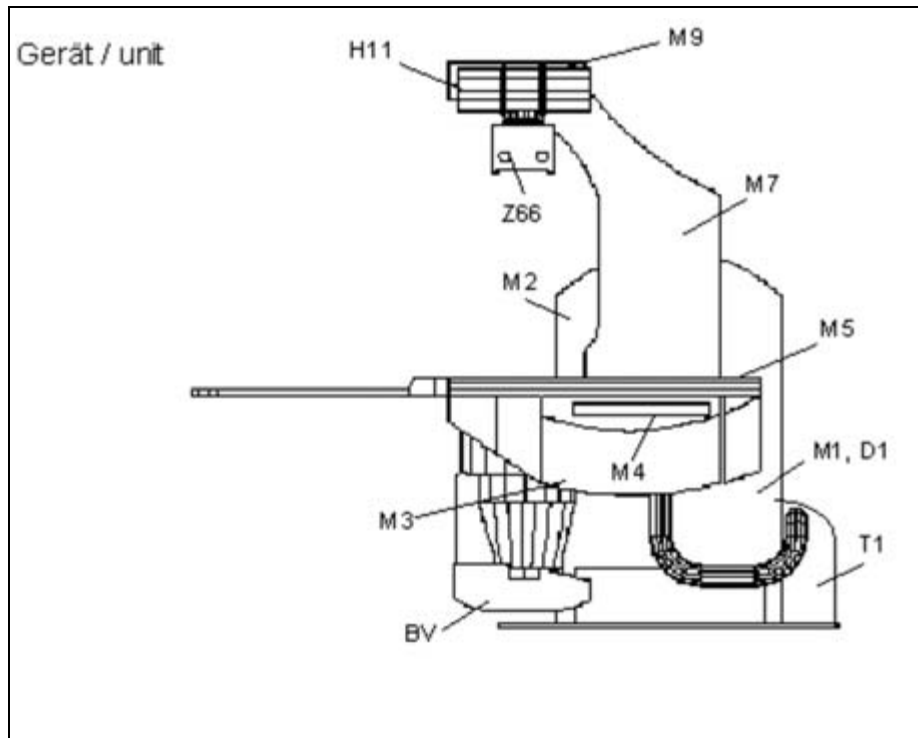

Fig. 1: Components
- The locations of the UROSKOP Access components are shown in \(Fig. 1 / p. 13\).